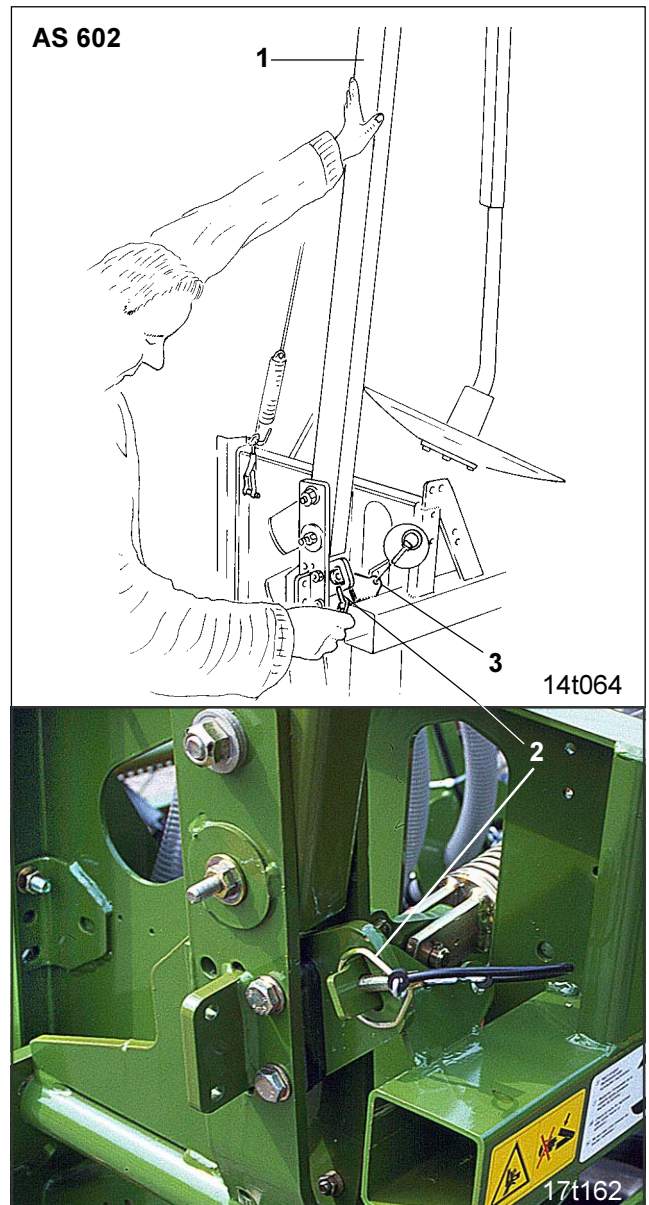

Fig. 24.7
For transport, each marker arm (Fig. 24.7/1) is fixed with a clip pin (Fig. 24.7/2).
- Hold marker arm (Fig. 24.7/1) and remove the clip pin (Fig. 24.7/2) (required for transport)
- If not needed insert clip pin (Fig. 24.7/2) into the bracket (Fig. 24.7/3).
After removal of the clip pin (Fig. 24.7/2) the marker arm slightly moves out to the side.
Before transport, the marker arms must be fixed to the machine in reverse order and secured with the clip pins (Fig. 24.7/2).
For transport each marker arm must be folded upwards and secured with the lip pin (Fig. 24.7/2).